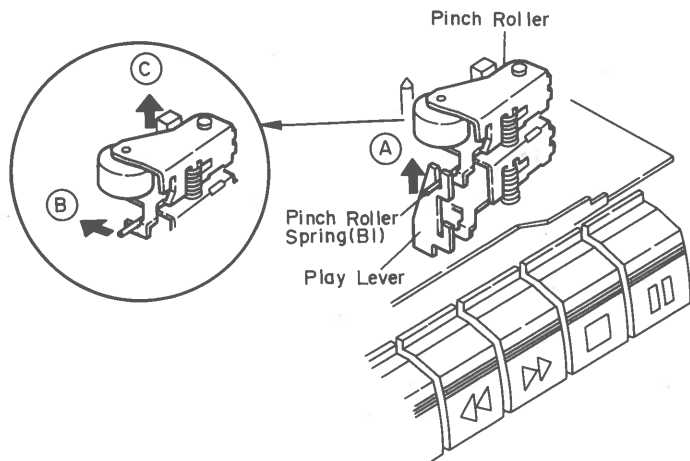

Figure 5-2
- How to remove the pinch roller (See Fig. 5-2.)